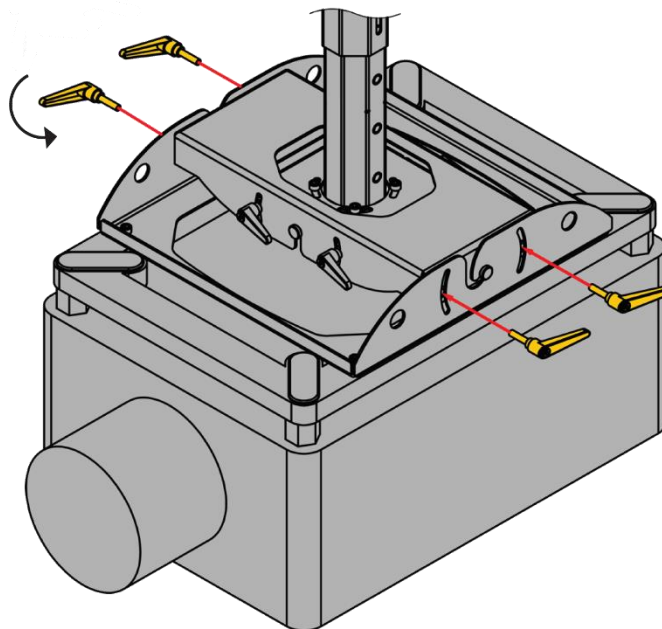

Figure 93: Step 12
Step 12: Tighten the projector plate ⑥ to the middle plate ⑤ by using the clamping handles ⑨ (4 pcs.), as shown in **Figure 93**.